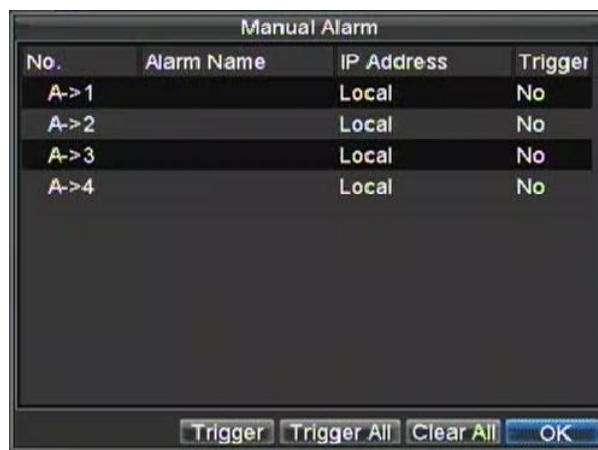

Figure 10. Manual Alarm Menu
1. Enter the Manual Alarm menu (Figure 10) by clicking Menu > Manual Alarm.